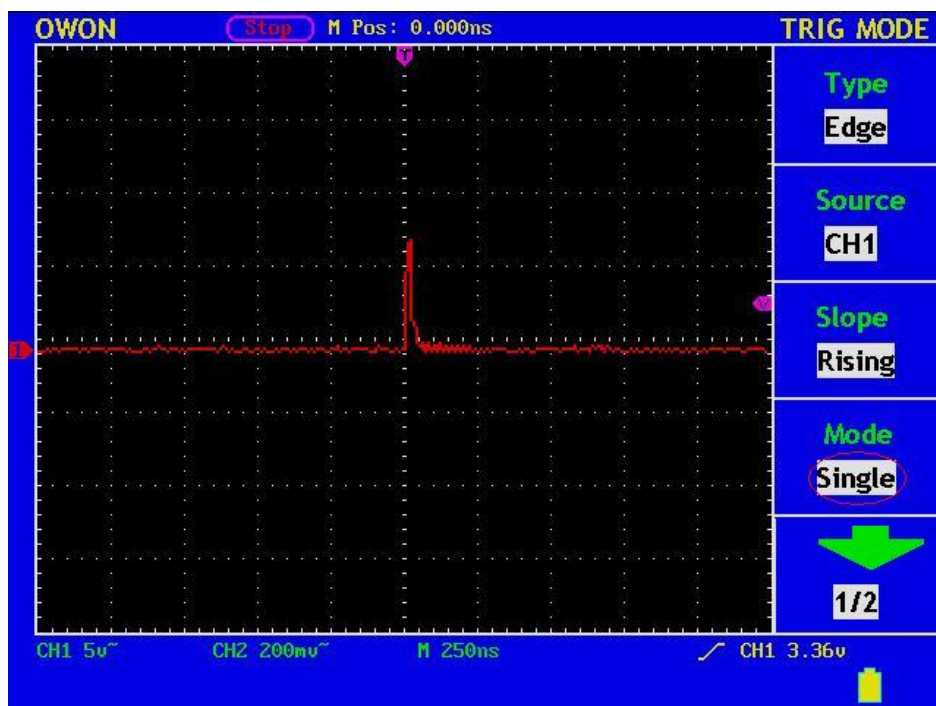

Fig. 66 Capture the Single Signal
10. If the **Trigger State Indicator** at the top of the screen does not indicate **Ready**, push down the **RUN/STOP** button and start **Acquire**, waiting the emergence of the signal in conformity with the trigger conditions. If a signal reaches to the set trigger level, one sampling will be made and then displayed in the screen. With this function, any random occurrence can be captured easily. Taking the burst burr of larger amplitude for example, set the trigger level to the value just greater than the normal signal level, and then press the **RUN/STOP** button and wait. When there is a burr occurring, the instrument will trigger automatically and record the wave form generated during the period around the trigger time. With the **HORIZONTAL POSITION** knob in the horizontal control area in the panel rotated, you can change the horizontal position of the trigger position to obtain the negative delay, making an easy observation of the waveform before the burr occurs (see Fig. 66).